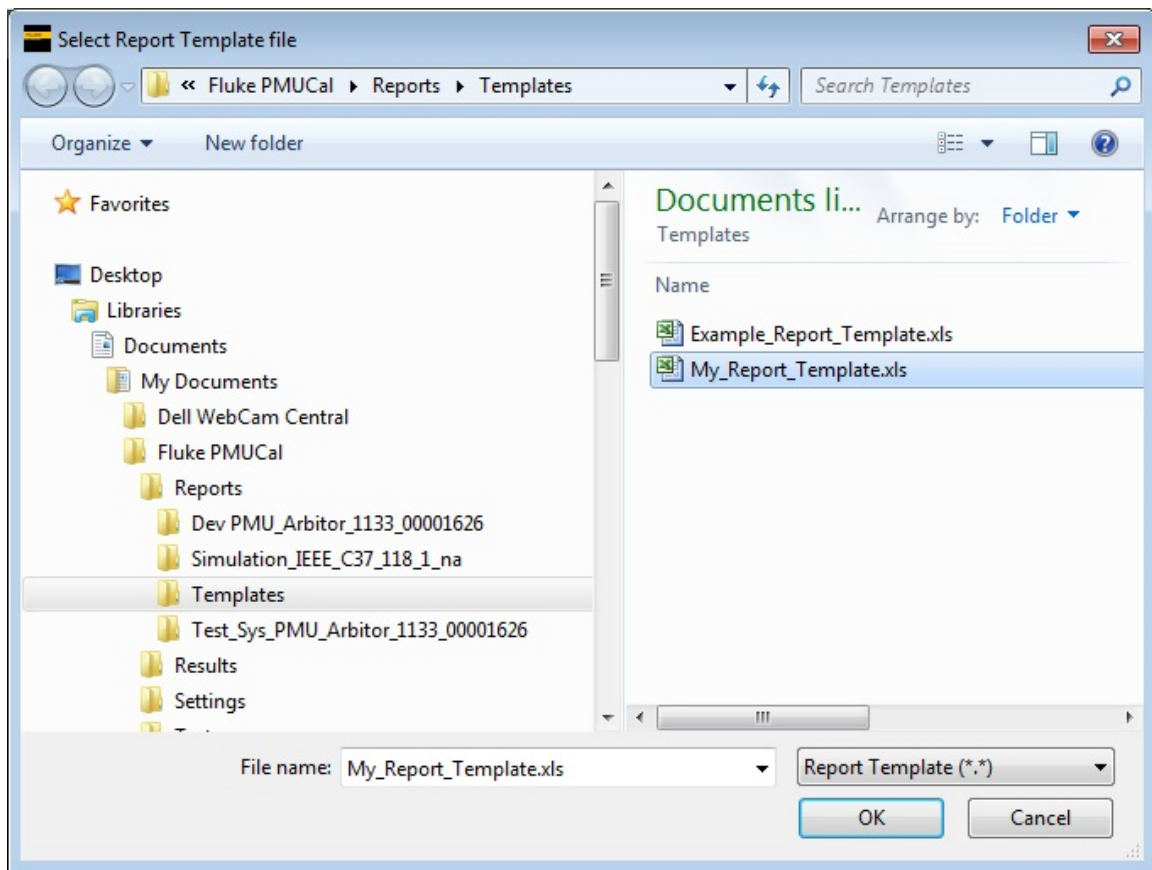

Figure 7-15. Template Selection
1. Click on **Create One Report**. A prompt will appear asking which report template to use. See Figure 7-15.
2. Create a list of result files and click on **Create Reports**. A prompt will appear asking which report template to use. See Figure 7-15.